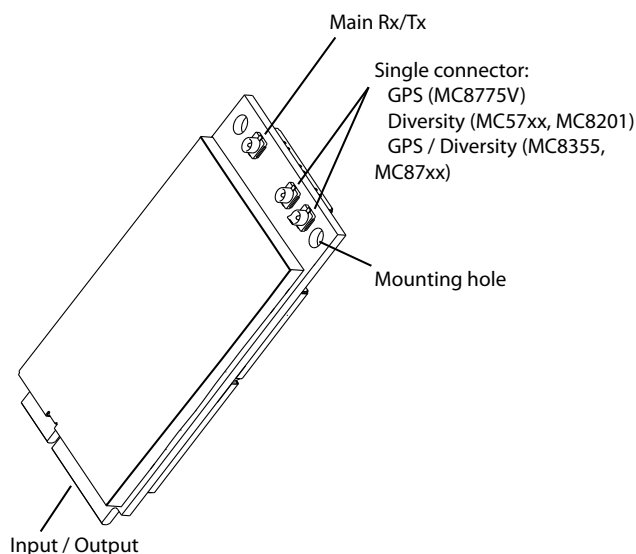

Figure 3-1: Antenna connection points and mounting holes
- Use a Hirose U.FL connector (model U.FL #CL331-0471-0-10) to attach an antenna to a connection point on the module, as shown in Figure 3-1 (main RF, diversity RF, GPS, combined diversity/GPS).
- Connect to system ground using the two mounting holes at the top of the module (shown in Figure 3-1 on page 41).